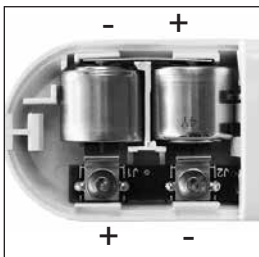

Figure 3 Battery Installation
2. Install two batteries. Refer to Figure 3.